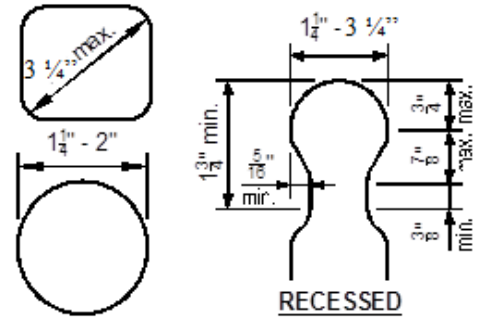

FIGURE 39: HANDRAIL GRASPABILITY
- Handrails shall have a smooth surface with no sharp corners and shall be graspable. Recessed sections may be shaped from a 2x6 or five-quarter board as shown in FIGURE 39. **(Local amendment may allow up to 3 ¼" cross section).**